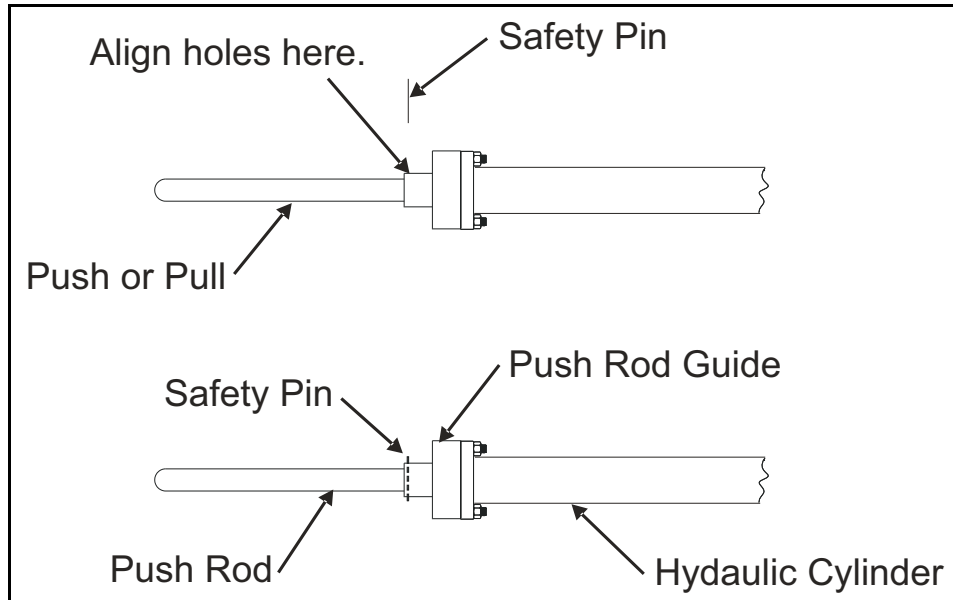

Figure 36: Aligning the Push Rod and Guide
6. Position the 0.28 in. diameter hole of the push rod to align with the 0.28 in. diameter hole of the push rod guide. Then, push the safety pin through the holes to secure the cylinder, push rod and push rod guide assembly (see *Figure 36* below).